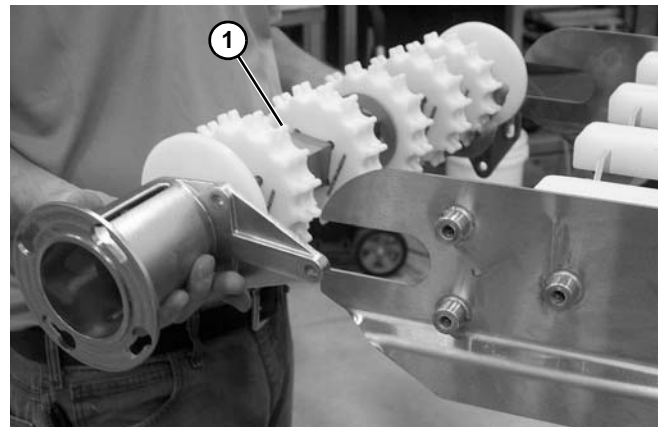

Figure 58
4. Remove drive tail assembly (Figure 58, item 1).